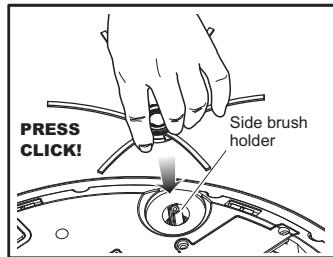

Fig. 1
**To install:** Push the brush directly onto the holder.(Fig. 1)